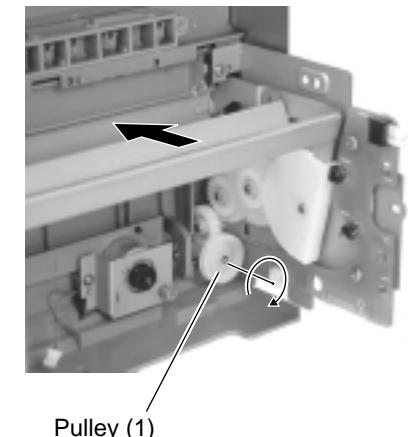

Fig.42
■Removing the control board (See Fig.42 to 46)
- Remove the belt. Rotate the pulley (1) and move the control panel assembly toward the front until it stops.